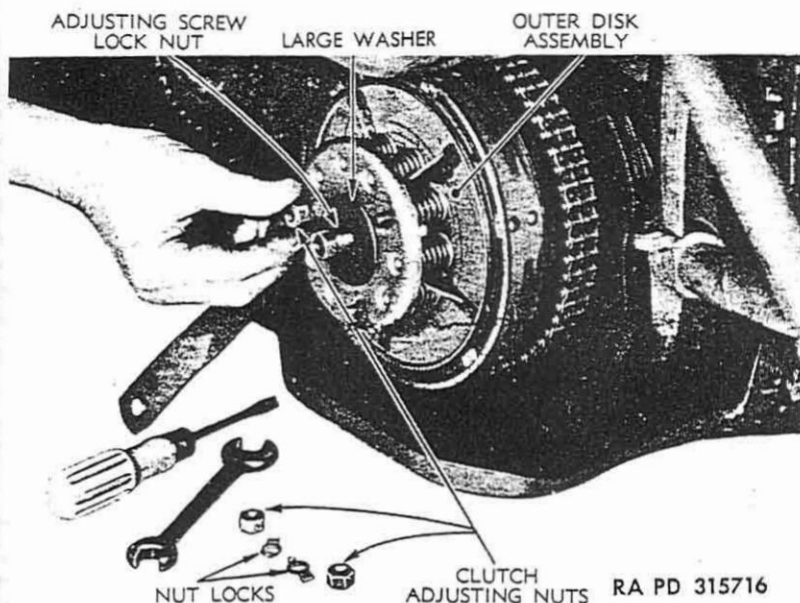
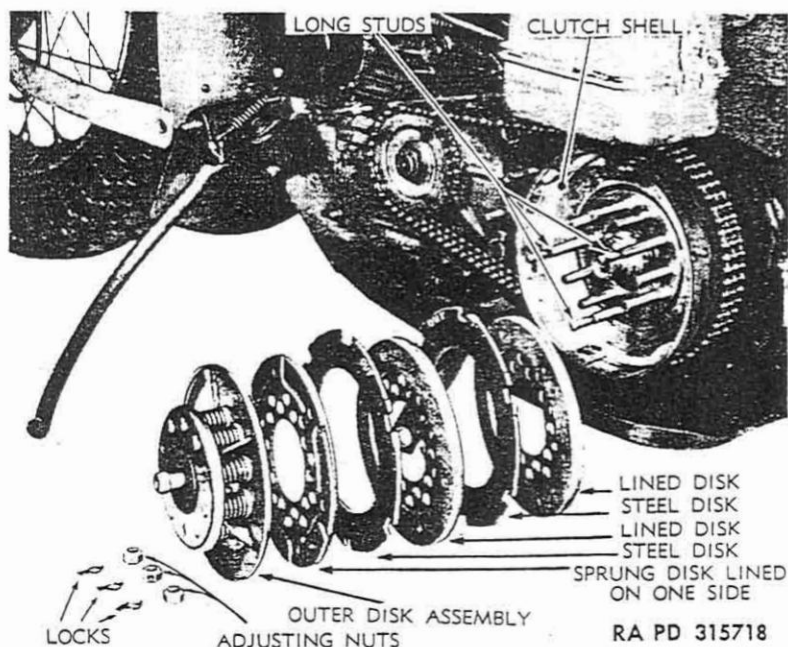

Figure 28—Removing Spring and Outer Disk Assembly
Figure 30—Clutch Disks, Removed
(7) If clutch still does not hold, after correct control and spring tension adjustments have been made, clutch "pack" assembly must be replaced (par. 49).
(8) After making clutch spring tension adjustment, replace outer front chain guard (par. 102).
49. REMOVAL OF DISKS (figs. 28, 29, and 30).
- (1) Remove outer front chain guard (par. 102).
- (2) Remove push rod adjusting screw lock nut. Place a large flat washer, approximately $\frac{1}{8}$ -inch thick, $1\frac{3}{4}$ -inch in diameter with a $\frac{3}{8}$ -inch center hole, over push rod adjusting screw, and replace adjusting screw lock nut just removed (fig. 28). Tighten adjusting screw lock nut against large washer until the three clutch spring adjusting nuts are free. Bend nut lock down, remove the three adjusting nuts, and withdraw releasing (outer) disk and spring assembly as one unit. Remaining lined and plain steel disks can now be removed from sprocket and clutch shell unit without further disassembly (fig. 30). **NOTE:** At time lined and plain disks are removed from shell, observe relative position of each disk in order of correct assembly.
(1) To remove springs, remove push rod adjusting screw lock nut, freeing spring collar and the 10 springs from the releasing (outer) disk assembly.
(2) Measure springs for free length. Free length of new clutch springs is approximately $1\frac{1}{2}$ inches (they may vary plus or minus $\frac{1}{32}$ inch). Old springs found to be shrunk $\frac{1}{8}$ inch (total free length of spring is $1\frac{3}{8}$ inch or less) must be replaced with new springs. *NOTE: Before replacing springs, select 10 springs that do not vary more than $\frac{1}{32}$ inch to make up the assembly.*
51. INSTALLATION OF DISKS (figs. 30, 29, and 28).